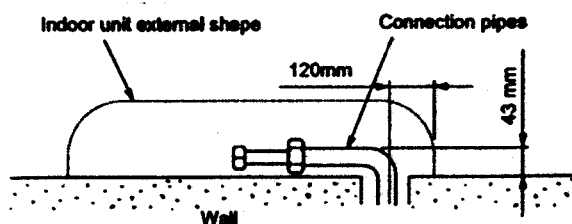

Fig. 3-11
- (1) When the piping runs to the left, remove the left side body bushing of the rear panel. You may need the body bushing when you relocate the unit, so be sure make the customer keep it in a safe place.
- (2) After passing the connection pipe through the pipe hole, connect the connection pipe to the auxiliary pipes and wrap covering tape around them.
- (3) For left-hand connection with piping, bend the pipes as shown in Fig. 3-11.